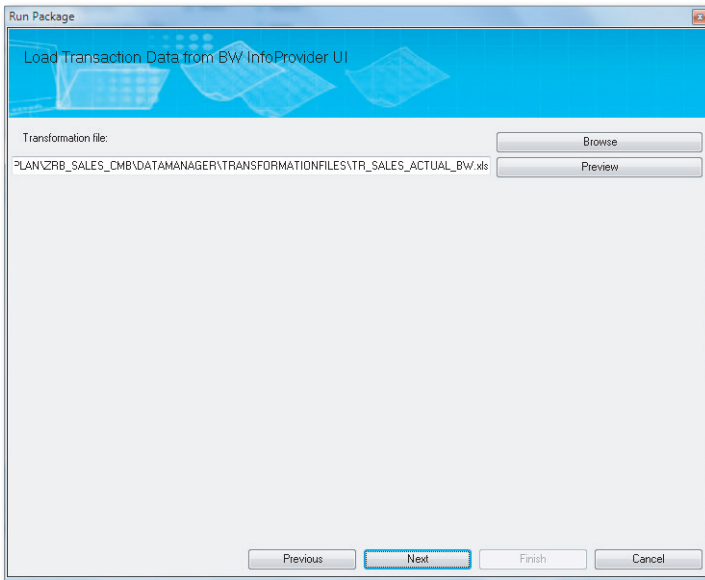

Figure 4.53 Loading Data from an InfoCube into a Model—Part F
7. Specify the transformation file you created in the previous steps: "TR_SALES_ACTUAL_BW" (Figure 4.53).